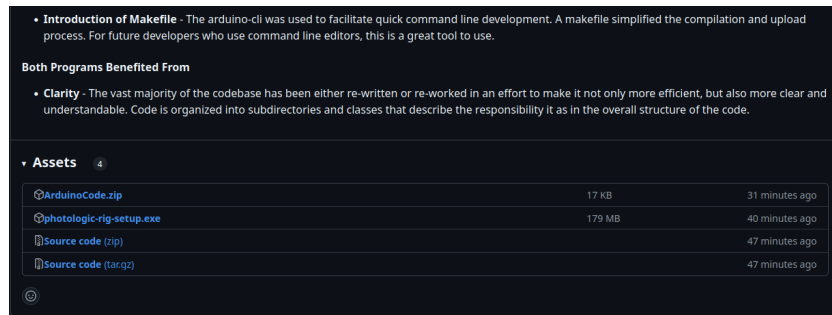

Figure 2: Download the Installer Package Under the Assets Heading on the Github Release Page.
For this version of the software, a installer program has been created that will do all of the hard and confusing work for you. This installer program can be found on the release page for this version. Scroll to the bottom and click on the file named 'photologic-rig-setup.exe'. You can see what this download section will look like in Figure 2. You should notice the installer appear in your active downloads.
4. **Download the Update** - If you did not do so earlier, download the ArduinoCode.zip file to your computer from the Github release page. This file is listed in the release page 'Assets' downloads sections as shown in Figure 2.